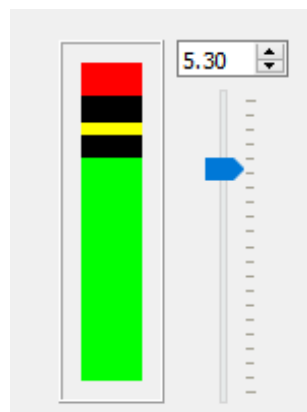

Figure 128 – Recording overloading input
- “**Record**” starts the recording process, coloured indicators will appear in the black box (Figure 128) according to the level set by the blue slider or numerical box.